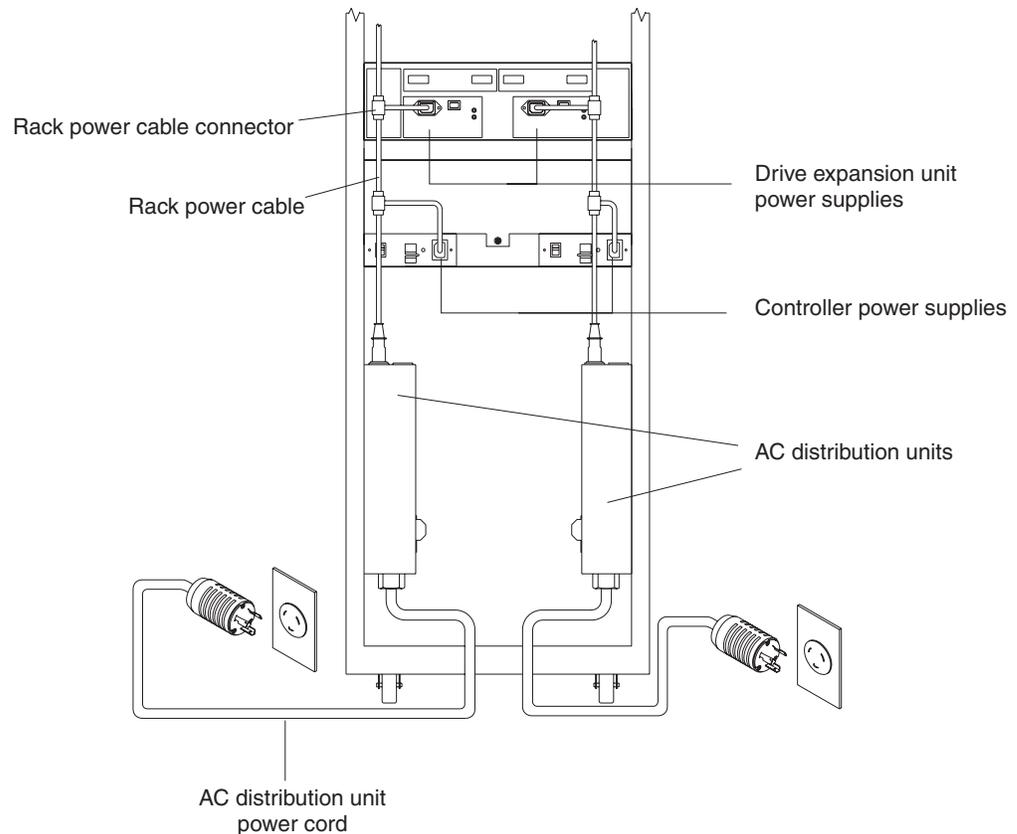

Figure 40. Redundant ac power connections to controllers and drive expansion units
Note: To maintain power redundancy on the FAStT600 dual-controller storage server (Model 60U/60X), plug the storage server's right and the left power supplies into two independent external power circuits through ac distribution units inside a rack cabinet or directly into external receptacles. Similarly, the right and left power supplies of the FAStT drive enclosures attached to the FAStT600 storage server should be plugged into the same two independent external power circuits as the FAStT600 storage server. See Figure 40 on page 41 for an example of redundant power cabling.
- **FAST600 models 60U/60X only:** To maintain power redundancy, plug the FAST600 Storage Server’s right and left power supplies into two independent external power circuits through ac distribution units inside a rack cabinet or directly into external receptacles. Similarly, the right and left power supplies of the FAST drive enclosures attached to the FAST600 Storage Server should be plugged into the same two independent external power circuits as the FAST600 Storage Server. This ensures that the FAST600 Storage Server and all its attached drive enclosures will have power if only one power circuit is available. In addition, having all the right or all the left power supplies plug into the same power circuit will enable the components in the storage subsystem to power on simultaneously during an unattended restoration of power. See Figure 40 on page 41 for an example of redundant power connections.